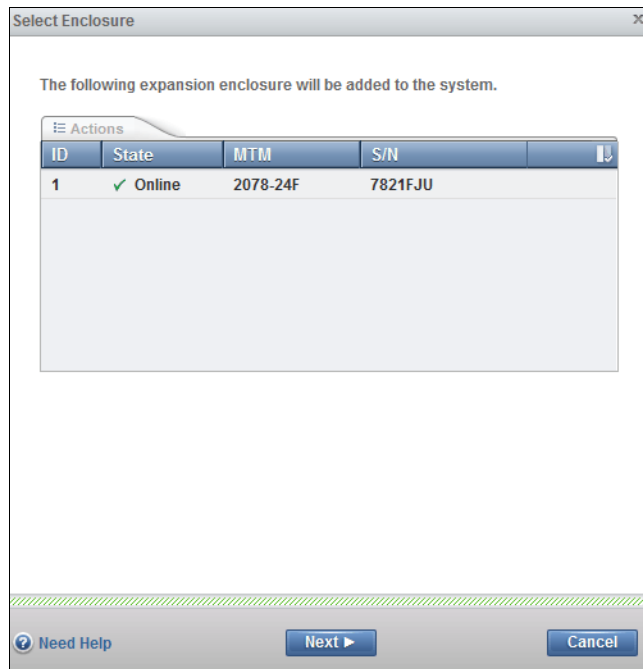

Figure 2-45 Expansion enclosure cable check
2. If the enclosure is cabled correctly, the wizard identifies the candidate expansion enclosure. Select the expansion enclosure and click **Next**, as shown in Figure 2-45.